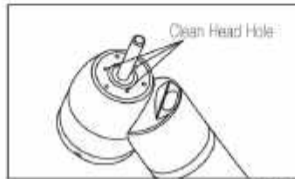

Fig. 5
- 1) Remove any debris from the Clean Head Holes with the provided cleaning wire and brush (Fig 5)